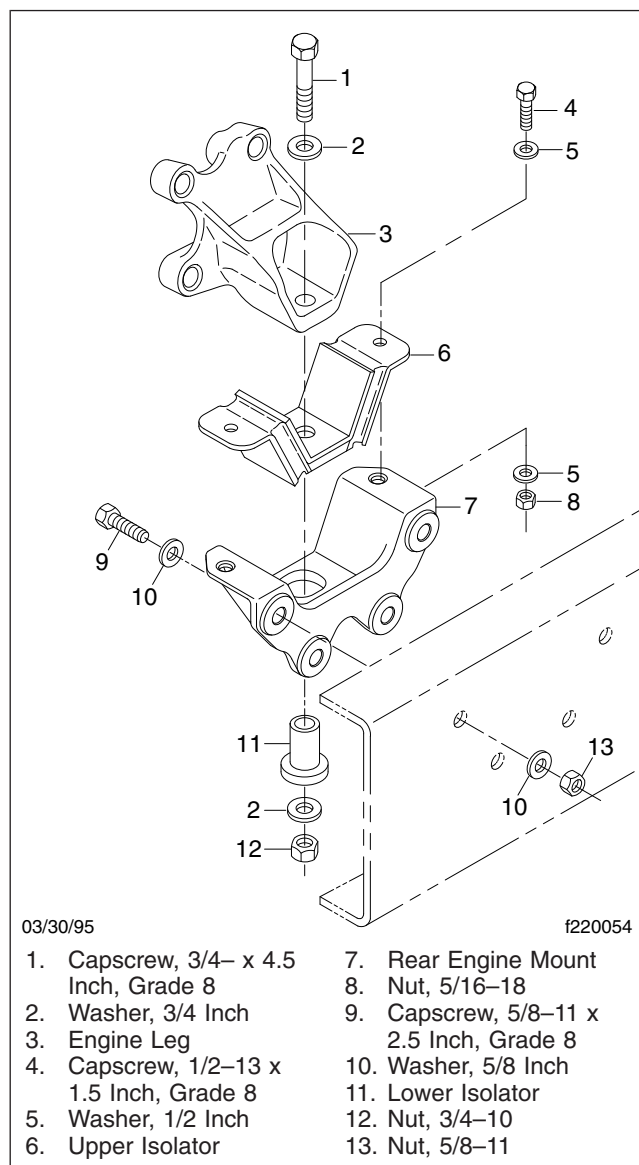

Fig. 13, Rear Engine Mount Assembly (pre-EPA07 engines)
bolts and nuts are to be checked at Initial Maintenance (IM). See **Fig. 13** for pre-EPA2007 engine mounts. Check the torque of frame fasteners to offset the effects of "bedding in" (or seating). When checking torque, torque the nut, not the bolt head whenever possible. This will give a true torque reading by eliminating bolt-body friction. When checking the torque of frame fasteners, inspect the frame for cracks and other damage. Set a click-type torque wrench to the maximum torque of the fastener you are checking. Apply pressure until the torque wrench clicks. Do not loosen the bolt to check the torque. See the applicable torque table in **Group 00** for torque specifications.